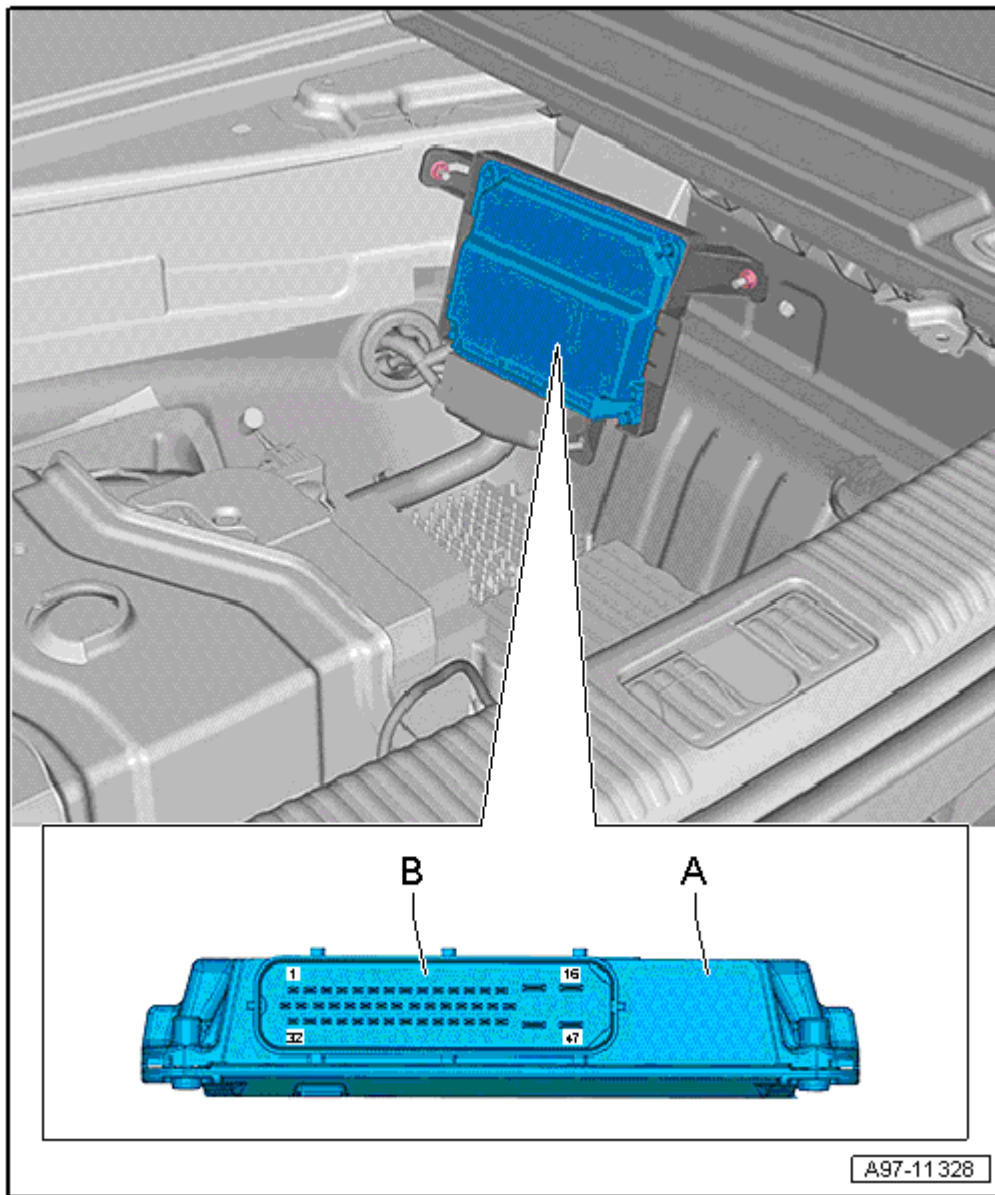

Fig. 35: All Wheel Drive (AWD) Control Module -J492- in the Audi A6/A7
- Installed locations on the Audi A6 and Audi A7, refer to **Fig. 35**